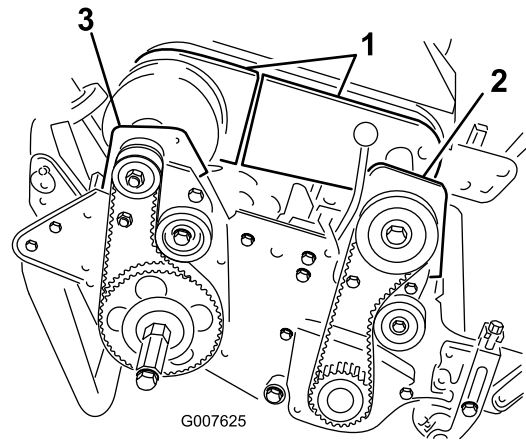

Figure 35
4. Remove the bolts securing the front and rear sections of the differential cover to the differential housing and slide the cover sections away to expose the belt (Figure 35).
6. Remove the 2 bolts and locknuts securing the front clutch housing to the side plate (Figure 35).
8. Remove the 2 bolts and locknuts securing the right rear bearing housing to the side plate (Figure 35).